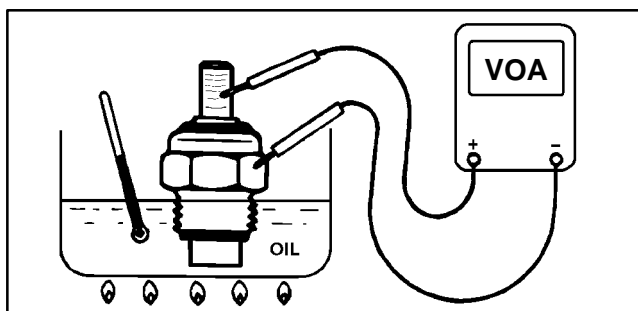

Figure 18
2. Put sender in a container of oil with a thermometer and slowly heat the oil (Fig. 18).